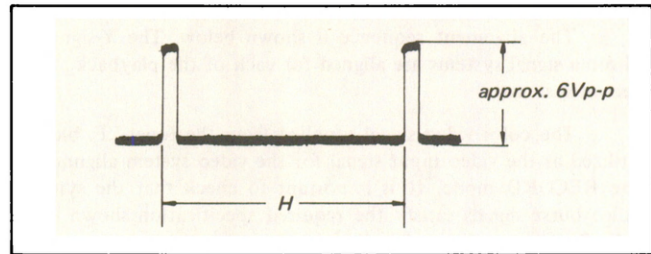

Fig. 4-27. Sync signal
- (4) Adjust RV9 for a counter reading of $688,373 \pm 1500$ Hz.
- (5) Remove the DC-regulated power supply connected in Step (1). Supply the color bar signal to the machine and set up the RECORD mode.
- (6) Connect the oscilloscope to pin 20 of IC3 and check that the waveform shown in Fig. 4-27 is obtained.